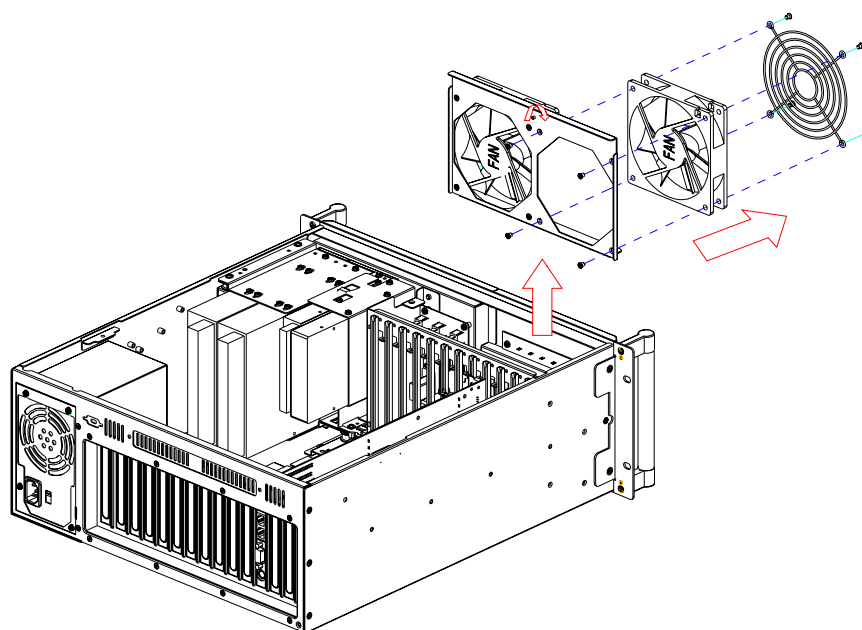

Figure 3.5 Replacing the cooling fan
5. Fix the new cooling fan on the fan guard and the bracket by screwing in the eight screws. (see Figure 3.5)